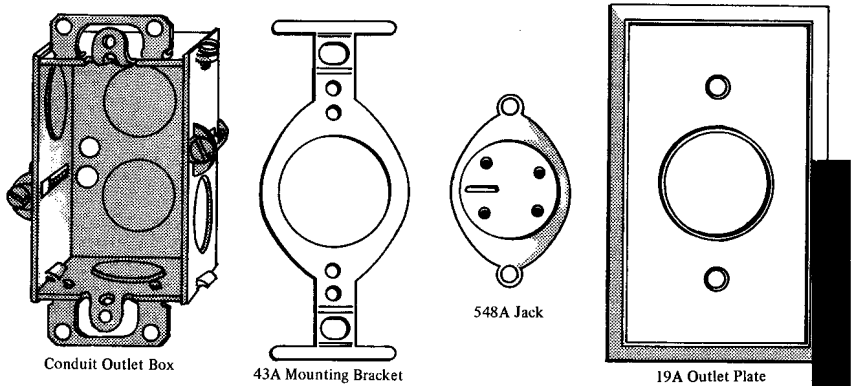

FIGURE 3. Installation Using Customer Installed Conduit Box (548A Jack)
- a. The 548A indoor jack may be used in conjunction with a customer installed conduit outlet box as shown in Figure 3, or for prewiring in association with a type 60A mounting ring as shown in Figure 4. The jack accepts a 505A plug.